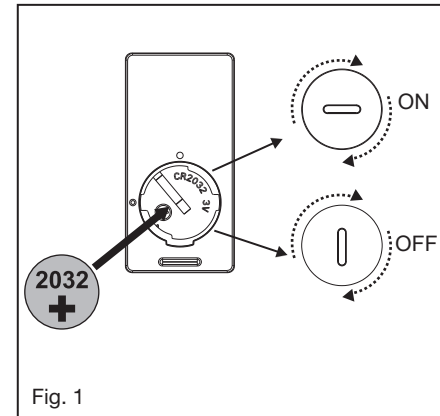

Fig. 1
1. Insert the receiver into the ceiling mounting bracket with the flat side of the receiver facing the ceiling. (Fig. 1) For best performance, make sure the Black Antenna and WIFI Antenna, on the end of the receiver, remains extended and not tangled with any of the electrical wires.
- 1 While holding the LED assembly under your fan, make the polarized plug connections: (Fig. 1)
- 2 Position the notches on the inner edge of the LED light kit so they match the tabs on the outside of the rim on the light kit mounting plate. Carefully lift the LED light kit inside the light kit mounting plate and secure it to the fan by turning the LED light kit clockwise until snug. (Fig. 1)
- 1 Select a desired location. Use the wall plate to mark the location of the mounting holes. Plastic wall anchors or mounting screws are needed for this application. (Fig. 1)
Remove the panel from the transmitter and then install one 2032 battery (included). You need to use a coin to open or close the battery cover. To prevent damage to transmitter, remove the battery if not use for long periods of time (Fig. 1)